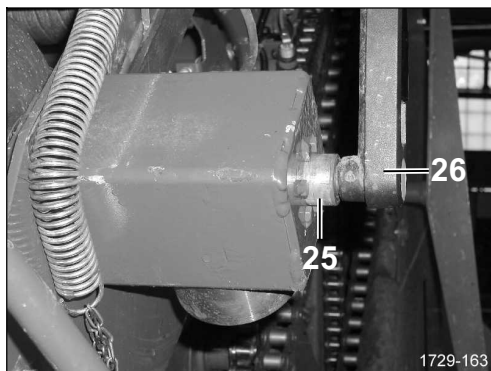

Figure 45
- (Figure 45) Crank tensioning spindle so far until between the bushing (25) and the crank handle (26) is only a gap of approx. 2 mm left.